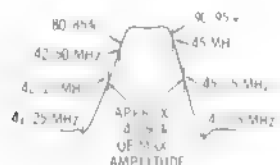

Figure 22
- () Check the overall IF response curve shown in Figure 22 to make sure the Video IF is aligned properly. Make sure the AFT switch is turned off.